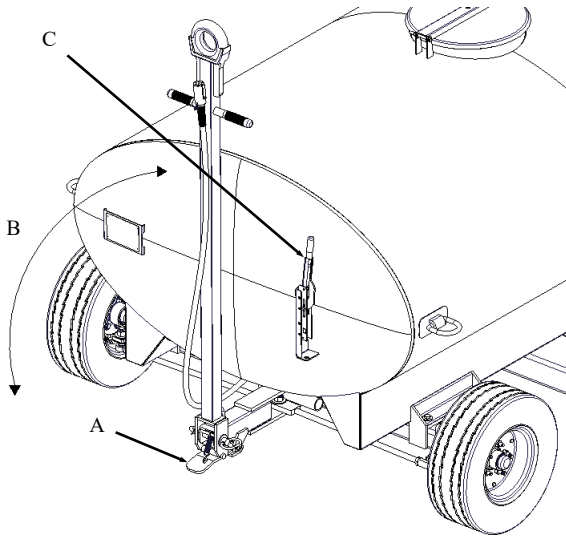

Figure 4-6. Releasing The Tow Bar
- b. (See Figure 4-6). Release Tow Bar from the up-right position by applying foot pressure to Toe Latch (reference arrow A) and swing Tow Bar downward (reference arrow B).